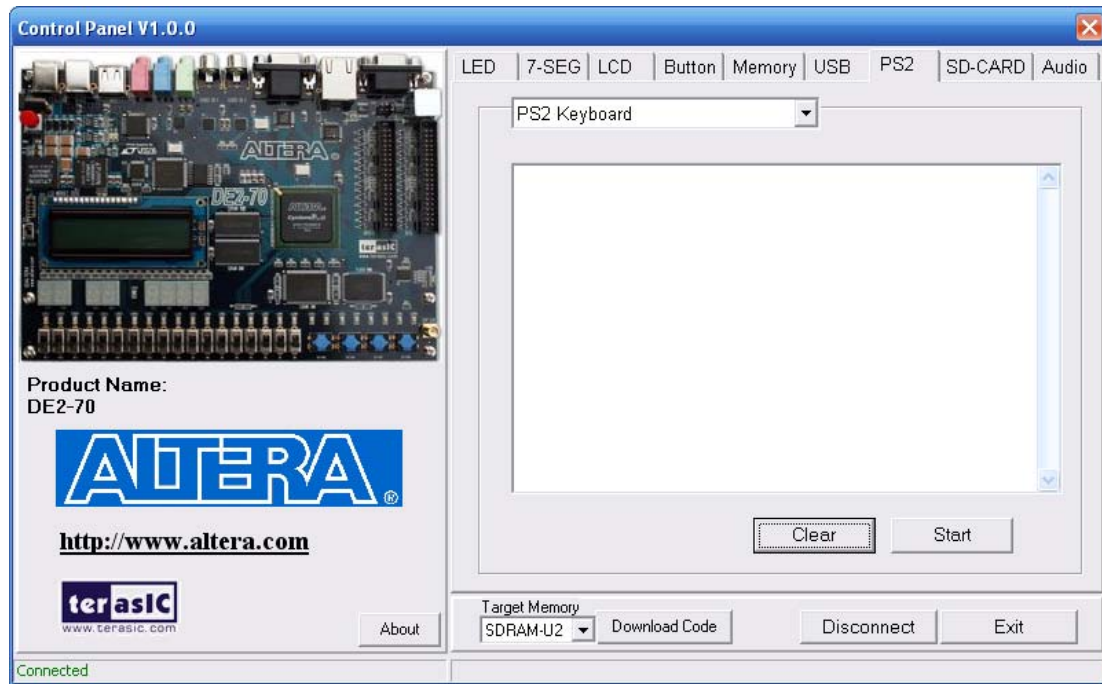

Figure 3.9. Reading the PS2 Keyboard.
1. Choosing the **PS2** tab leads to the window in Figure 3.9.